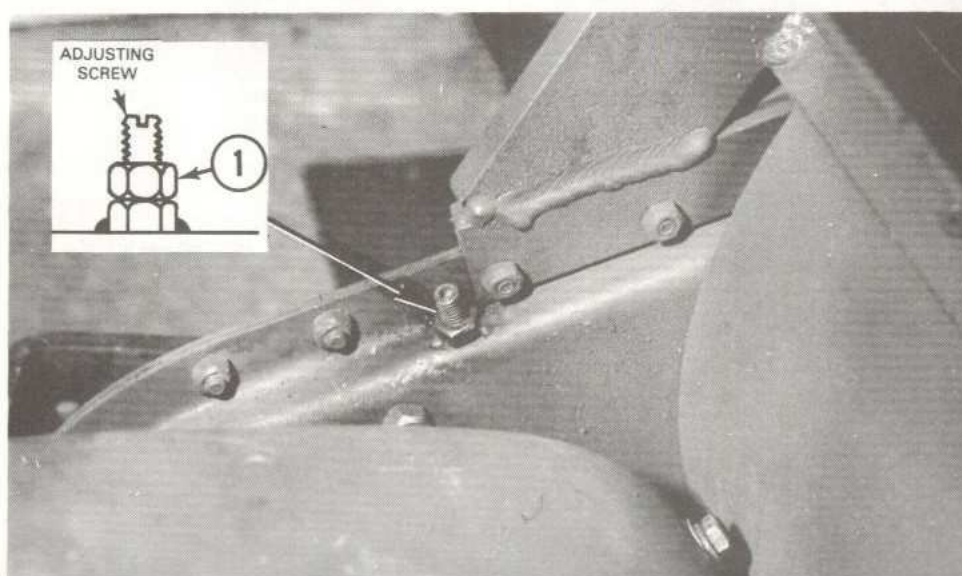

FIG. 44
2. Loosen jam nut (1), Fig. 44, and turn adjusting screw "in" until a slight drag is felt on chain.